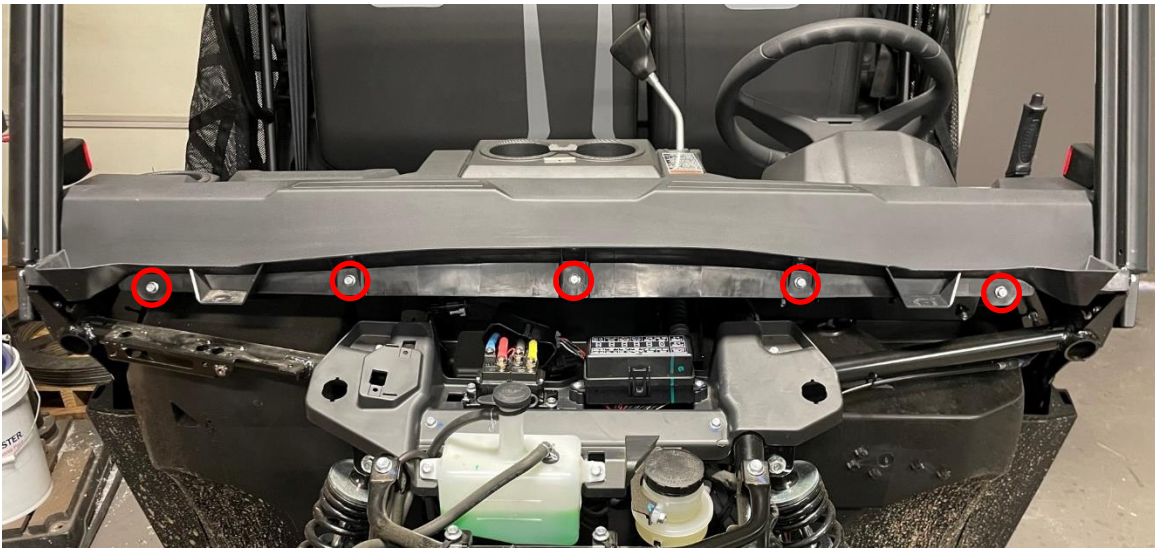
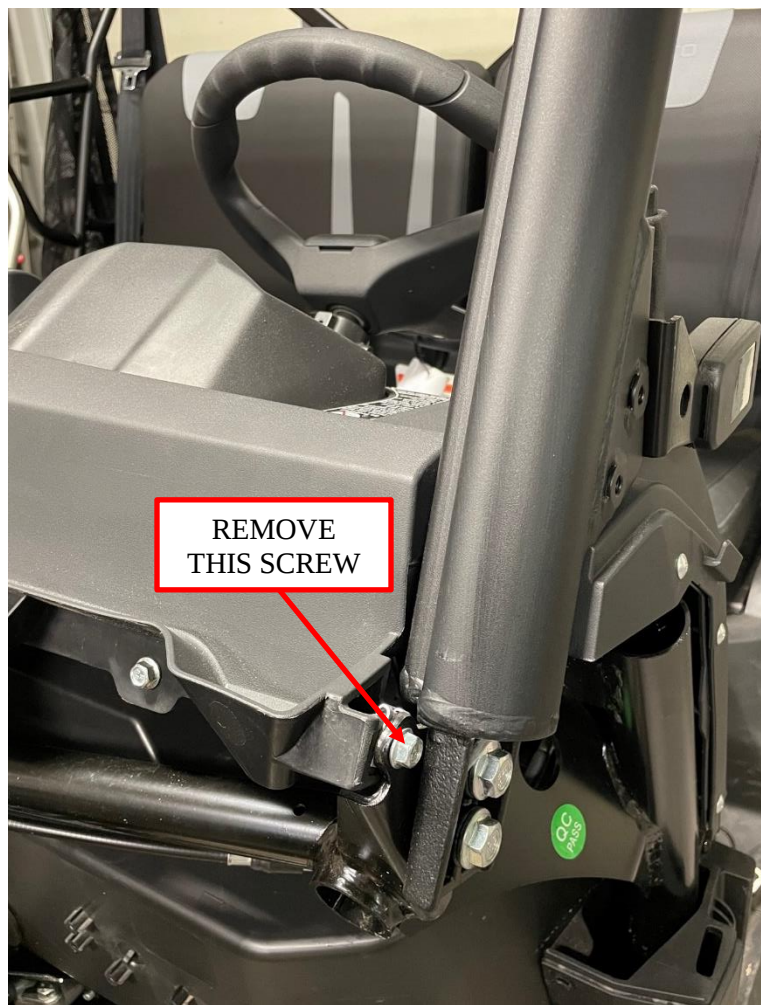

Figure 10: Remove the five dash screws.
Figure 11: Remove the screw near the down tube. Driver side shown. (Passenger side similar)
12. Remove the five screws from the front of the dash in the hood area to route the chassis wiring harness. See Figure 10.
13. Remove the screws from the end of the dash in the hood area at the base of the front down tubes. See Figure 11. Note: Driver side shown. Passenger side similar.
21. Reinstall the five panel screws, two outer screws, and hood. See Figure 9, Figure 10, and Figure 11.